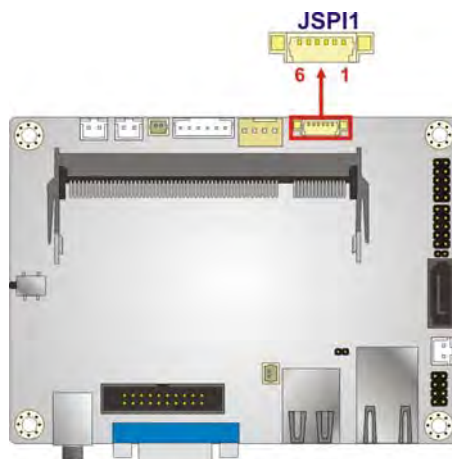

Figure 4-5: BIOS FW Connector Location
- CN Location: See **Figure 4-5**